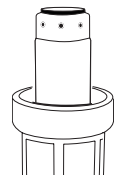

Figure 8
10. Place filter into housing. (See Figure 8.) Align housing to filter head and screw onto filter head. Tighten with wrench to seal.